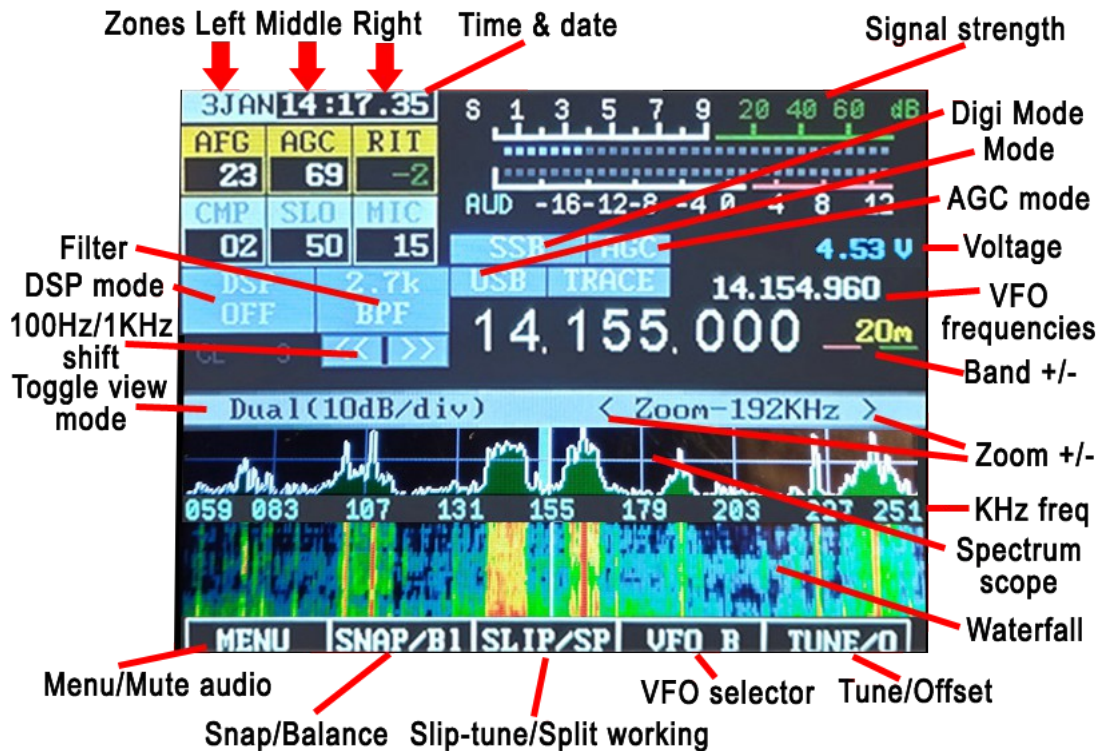

Figure 4: The main screen (annotated) with the SPLIT function deactivated.
- **Main Frequency Display:** This may be displayed either as a single frequency (transmit/receive as in **Figure 4**) or as a "Split" display showing both frequencies with separate transmit and receive frequencies. If the numbers in this display are **grey** the "Frequency Lock" (configured in the menu) is active. If this display is **yellow**, a transverter offset has been configured.